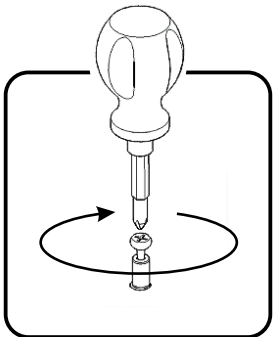

Figure 1
Insert Cam Lock Screws into the pre-drilled holes of Top (A), Seat (G), Bottom (H) and Side Panels (C), (D), (S), (T). (See Figure 1)